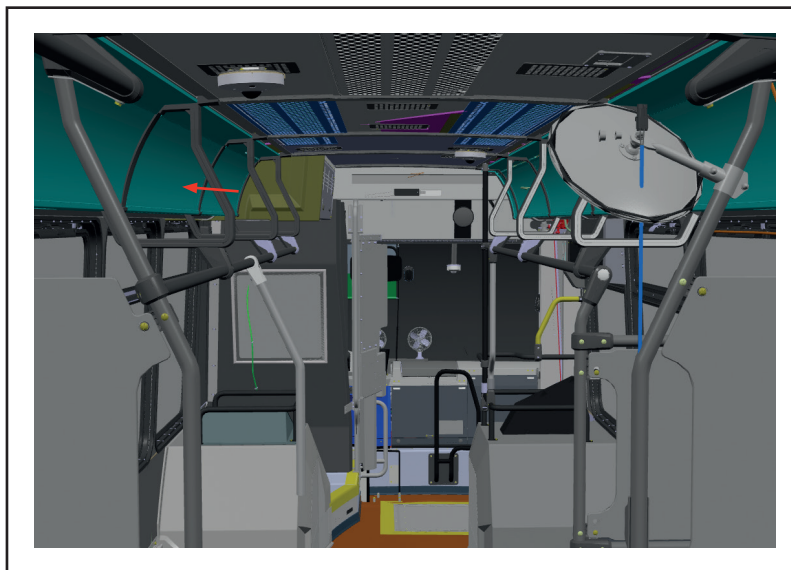

Figure 1 - Location of Front Base Light Panels to remove
- 1.4. Open the front, street side base light panels (located near the return air grill) (see figure 1).